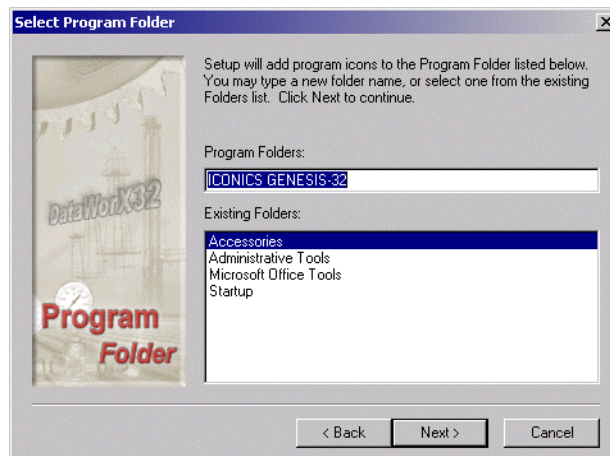

Figure 2.20
10. On the **Select Program Folder** window (Figure 2.20), you can select a name by which an entry will be created in the Start Menu. The default is **ICONICS GENESIS-32**. Click on **Next**.